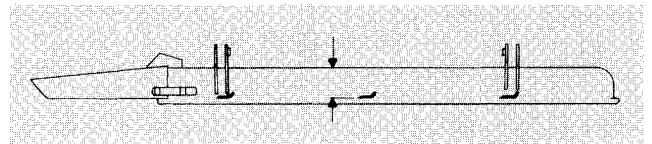

Figure 9
1. Rotate blade until the ends face forward and backward (Fig. 9). Measure from inside of cutting unit to cutting edge at front of blade (Fig. 9), and remember this dimension.